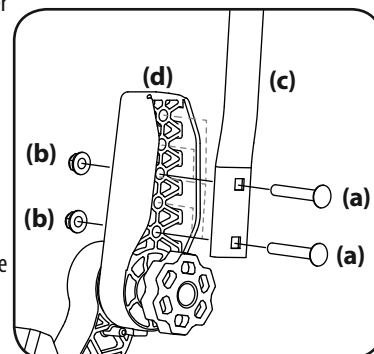

Figure 7
1. Remove the two carriage screws (a) and two flange lock nuts (b) that secure the lapbar drive control lever (c) to the upper handle adjuster (d). See Figure 7.
2. Move the lapbar drive control lever into one of the three available heights and secure in place with the carriage screws and flange lock nuts. See Figure 7.